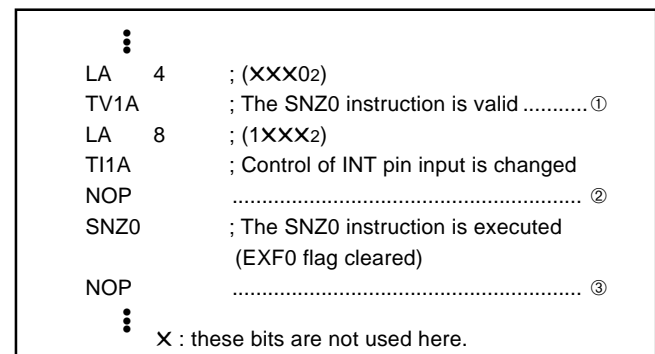

Fig. 47 External 0 interrupt program example-1
- Depending on the input state of the P13/INT pin, the external 0 interrupt request flag (EXF0) may be set when the bit 3 of register I1 is changed. In order to avoid the occurrence of an unexpected interrupt, clear the bit 0 of register V1 to "0" (refer to Figure 47①) and then, change the bit 3 of register I1. In addition, execute the SNZ0 instruction to clear the EXF0 flag after executing at least one instruction (refer to Figure 47②). Also, set the NOP instruction for the case when a skip is performed with the SNZ0 instruction (refer to Figure 47③).